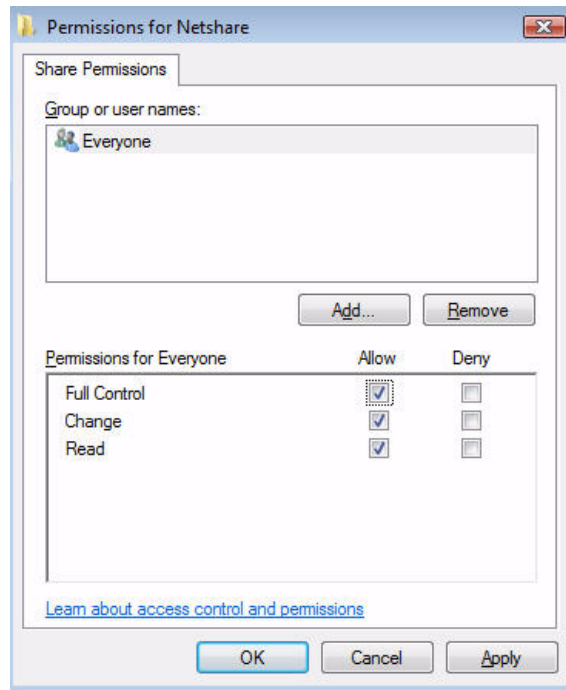

Figure D-15 Permissions for Netshare Dialog
4. Select the **Permissions** button. The Permissions for Netshare dialog opens (Figure D-15).
5. Select the **Allow** checkbox for **Full Control** as shown in Figure D-15 so that all checkboxes for Allow are checked.